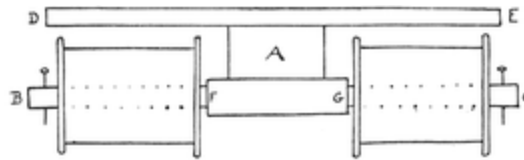

FIG. 197
(1) Small reels make good wheels for trams, motor-cars or trains. They require no sawing. Fig. 197 shows how they are fastened on. A is a block of wood glued and nailed on to the axle, B C, which is made of stripwood, $\frac{1}{4} \times \frac{1}{4}$ inch, or $\frac{1}{2} \times \frac{1}{4}$ inch; the ends, F B and G C, are rounded so that the reels can revolve easily on them. The bottom of the car is glued to the block. The reels can be placed quite under the bottom of the car, as in diagram, or they can project. For a train the wheels should be placed underneath.
(2) Large reels may be sawn into several thicknesses. These make excellent wheels, but are very difficult to saw even with a mitre block. It is hard to hold them steady and there is some danger of the children sawing their fingers.
(3) Broom handles, round rods, etc., are easily sawn up and make excellent wheels. Holes have to be drilled through them and enlarged with round file for the axle, or a hole the right size can be made at once with the brace and bit. (For use of which see Part II.)
(4) Wheels can be made with the brace and centre-bit. The way for the centre-bit must be prepared by using a small-sized pin-bit. The wood must
(5) There is a little instrument sold called a circle-cutter (price, 2s.), designed for cutting small circular pieces of wood from satin walnut board. It is so constructed that it will cut circles of any size up to 5 inches in diameter. This, however, is difficult for children to use.
(6) For large wheels or table-tops a circle can be drawn in a square, the corners sawn off, the obtuse corners sawn off again and then filed perfectly round. This is rather a laborious method, but quite successful. Holes can be made in the centre with a bradawl and enlarged with a round file.
(8) The fret-saw (see Part II) is very useful for making wheels.
(9) The wooden tops of gloy bottles make very good wheels indeed (especially for motor-cars). They are ready for use at once, as they have a hole in the centre. Also the tin tops of Le Page's liquid glue make excellent small wheels; a hole can easily be made in the centre by means of a hammer and a long nail or the pin stopper of a tube of seccotine.
(10) Wheels can be bought. A sheet of four wheels costs a penny. This is the least satisfactory course.
Of the various ways of making wheels described above, the methods best suited to little ones are (1), (3), (6), (7), and (9). The axles should be narrow strips of wood, with the ends rounded. Round rods do not make good axles, because they cannot be fastened securely to the bottom of the vehicle, the nailing being a difficult matter for the children. In fastening the axles to vans, carts, etc., there is no need for block A (Fig. 197); the latter is only